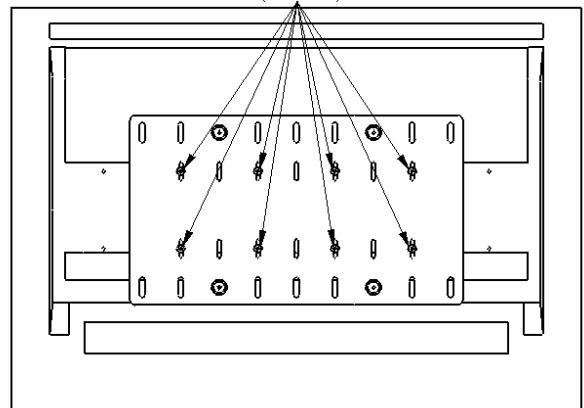

Figure 7. Display with 300mm x 100mm Hole Pattern
2. Attach the MSP-DELMsBV (10) using the hole-pattern on the back of your display as shown in Figure 7.